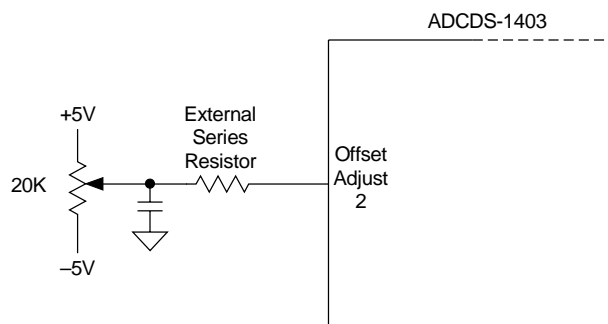
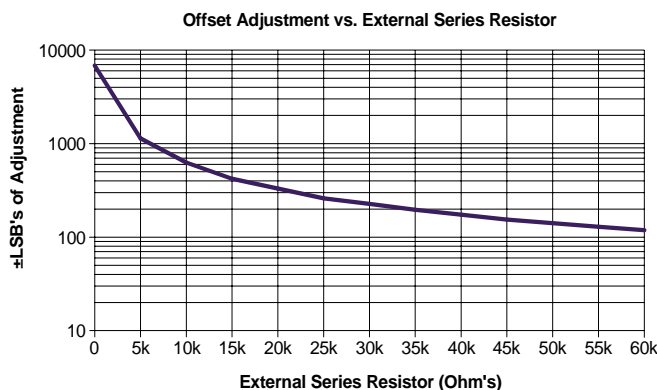

Figure 3. Offset Adjustment Circuit
Figure 6. Offset Adjustment vs. External Series Resistor
- If using the suggested offset and gain adjust circuits (Figure 3 & 5), place them as close to the ADCDS-1403's package as possible.
Manual offset adjustment for the ADCDS-1403 can be accomplished using the adjustment circuit shown in Figure 3. A software controlled D/A converter can be substituted for the 20K Ω potentiometer. The offset adjustment feature allows the user to adjust the Offset/Dark Current level of the ADCDS-1403 until the output bits are 00 0000 0000 0000 and the LSB flickers between 0 and 1. Offset adjust should be performed before gain adjust to avoid interaction. The ADCDS-1403's offset adjustment is dependent on the value of the external series resistor used in the offset adjust circuit (Figure 3). The Offset Adjustment graph (Figure 6) illustrates the typical relationship between the external series resistor value and its offset adjustment capability utilizing $\pm 5V$ supplies.